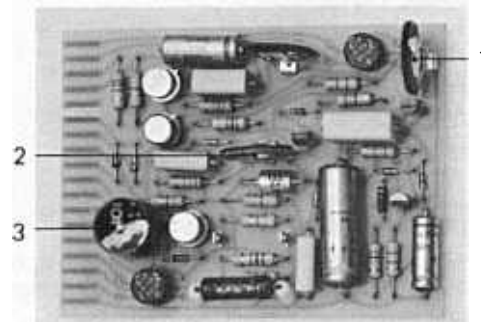

Fig. 4 Thyristor driver
- 2. Thyristor drive printed circuit (see Fig. 4)
4.1. Adjusting the cathode heating current (see Fig. 4., thyristor driver)
The cathode heating current is adjusted with the potentiometer R 12 (Fig. 4, item 2), the high voltage being switched off. With the cathode heating current units EHS 110 and EHS 110 U, it will be approx. 25 A, with the EHS 111 it will be approx. 18 A.
With the high voltage on the EHV 110 A (6 kV) switched on, the cathode heating current is adjusted with the potentiometer R 7 (Fig. 4, item 1) so that with an emission current of 700 mA or more there will be less than 60 A.
Adjusting: Switch-on the high voltage and turn on the emission current slowly with the "EMISSION CONTROL" potentiometer (because the cathode heating current rises quickly). Then, adjust the cathode heating current to 65 A with the potentiometer R 7 (Fig. 4, item 1).